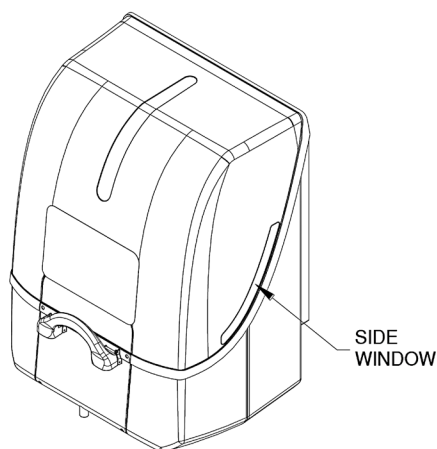

FIGURE 13
- A. Visually inspect Cartridge status through Side Windows on Lid Assembly (Ref Figure 13).